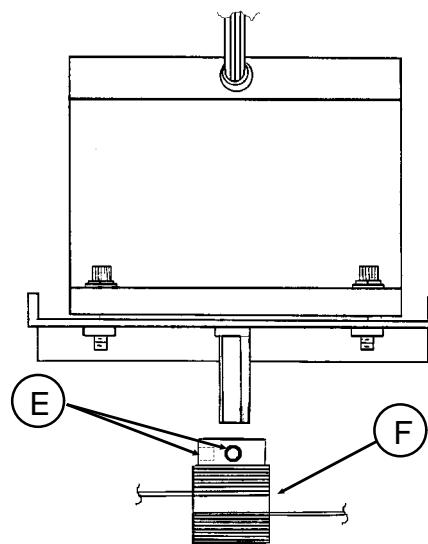

Figure 4
7. Loosen the Sew Screws (Figure 4-E) holding the Aircraft Cable Hub (Figure 4-F) on the X Motor Shaft.
- B. The Set Screws are aligned with the flats on the Motor Shaft (see Figure 4),